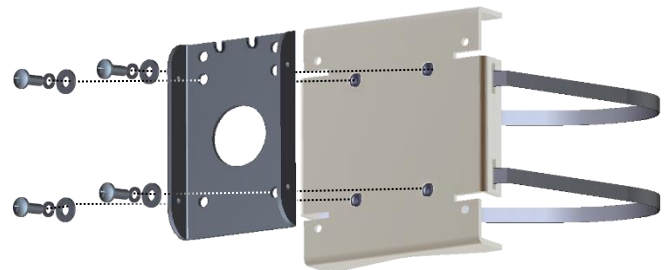

Figure 3 – Pole Mount (right) w/ Mount Bracket (left) from 2020WMA-1 Wall Mount
2. Attach the 2020WMA-1 mount bracket to the pole mount using the fasteners included with the pole mount (see Figure 3)